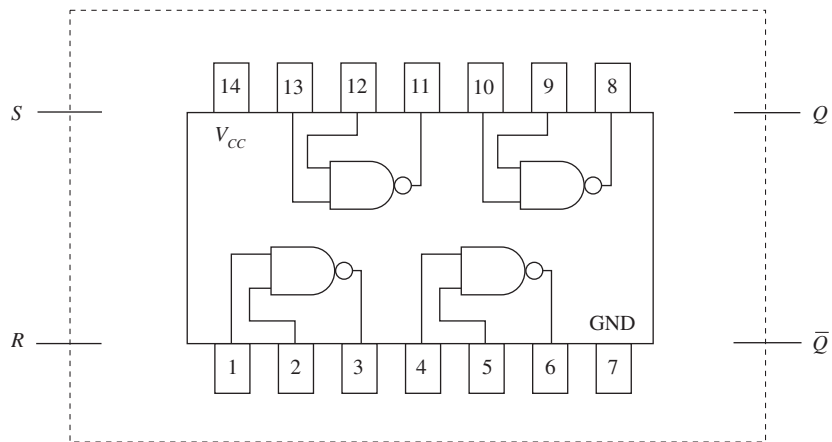

Figure P1
1. Make the necessary connections to the 7400 quad NAND gate IC in Figure P1 to form the cross-NAND *S-R* flip-flop of Figure 2. [Remember that an inverter can be formed from a NAND.]